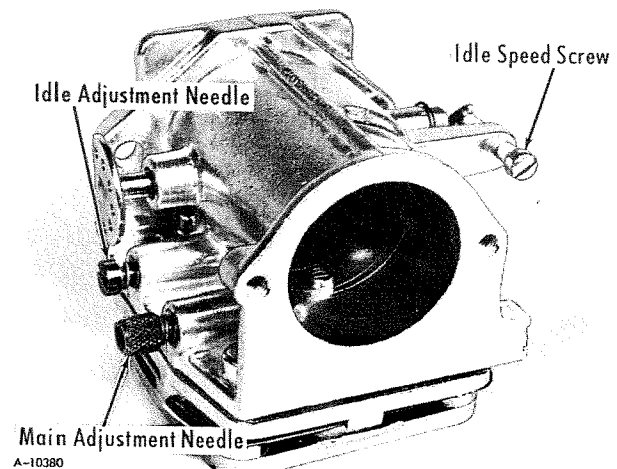

FIGURE 31
1. Turn both low and high speed fuel adjustment needles (Figure 31) all the way in. Then back each needle out one full turn.